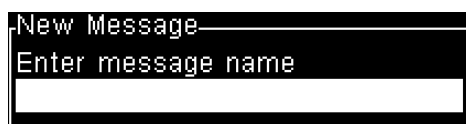

Figure 5-2: New Message Dialog Box
- 3 Press Enter to open the New Message dialog box (Figure 5-2).